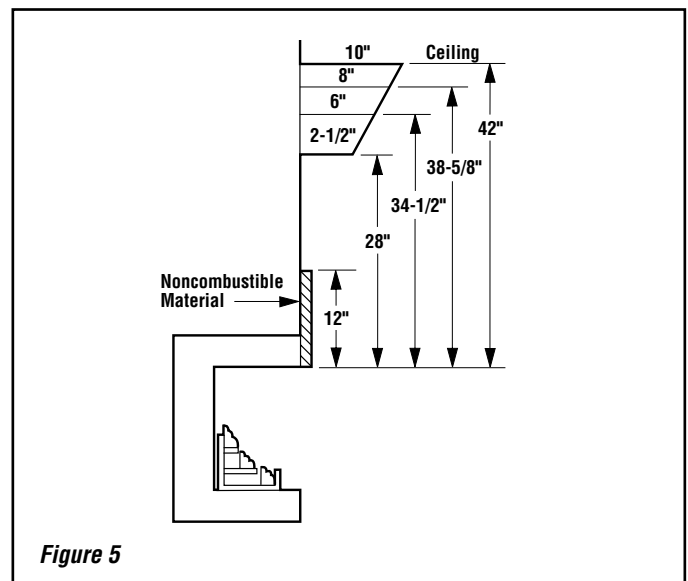

Figure 5
12" or more	Adjustable canopy not required. Observe profiles shown in Figure 5 .
**Step 4. Wood mantel, shelf or combustible projection requirements:** To install a wood mantel, shelf or other combustible projection directly above the fireplace (firebox), refer to *Table 2* and to *Figures 5 and 6* for installation profiles.